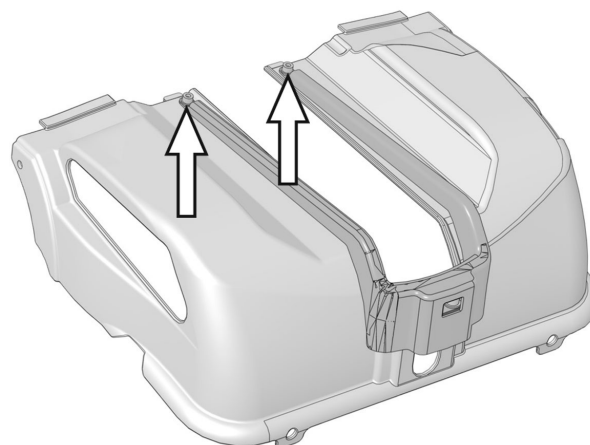

Figure 9. The crush protection cover is held in place on the chassis' front cover with two screws.
4. Unscrew and remove the two screws that hold the crush protection in place. See fig. 9.